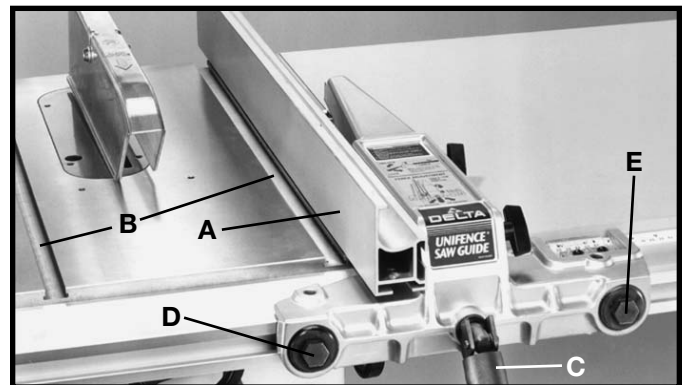

Fig. 78
The fence (A) Fig. 78, should be adjusted so it is parallel to miter gage slots (B). To check and adjust, move the fence (A) until the bottom front edge of the fence is in line with the edge of the miter gage slot as shown, and push down on fence clamping lever (C). Check to see if the fence is parallel to the miter gage slot the entire length of the table. If the rear of the fence must be moved, slightly tighten or loosen one of the adjustment plugs (D) or (E) Fig. 78, using the arbor wrench or a 7/8" wrench, until the fence is parallel with the miter gage slot. **IMPORTANT: DO NOT OVER-TIGHTEN PLUGS (D) AND (E) FIG. 78. VERY LITTLE MOVEMENT OF THESE PLUGS IS NECESSARY WHEN ADJUSTING THE FENCE PARALLEL WITH THE MITER GAGE SLOT.**